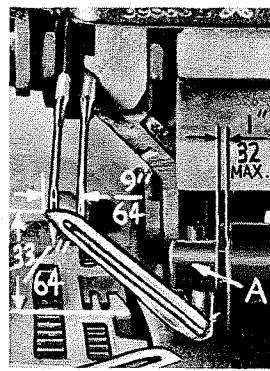

Fig. 10
Next, turn the handwheel until upper looper is at the left end of its travel. Check dimensions of upper looper point with respect to the right needle and throat plate (Fig. 10). If resetting is necessary, do it by moving the upper looper holder (A, Fig. 10). Figure 10 represents the dimensional setting.
Dimension  $33/64$  inch is increased by turning upper looper holder counter-clockwise looking from left end of machine. Dimension  $9/64$  inch is increased by pulling upper looper holder left, out of the upper looper shaft. A maximum dimension of  $1/32$  inch (Fig. 10) should be maintained between the upper looper holder and the upper looper shaft. After these changes are made, it may be necessary to turn the upper looper around its shank slightly to maintain the condition shown in Fig. 9.
If it becomes necessary to move looper thread pull-off (R) be sure to take up all end play in needle drive shaft before tightening. If upper looper is located so that it is higher over throat plate than recommended in (Fig. 10), the purl will tend to form near top edge. If upper looper is too low, the purl will form nearer bottom edge.